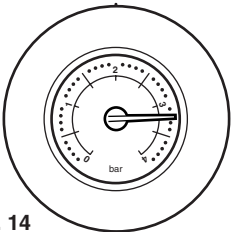

Fig. 14
3. A pressure of 3 or greater indicates a fault. The safety pressure relief valve will operate, at a pressure of 3 (Fig. 14). **It is important that your Service Engineer is contacted as soon as possible.**